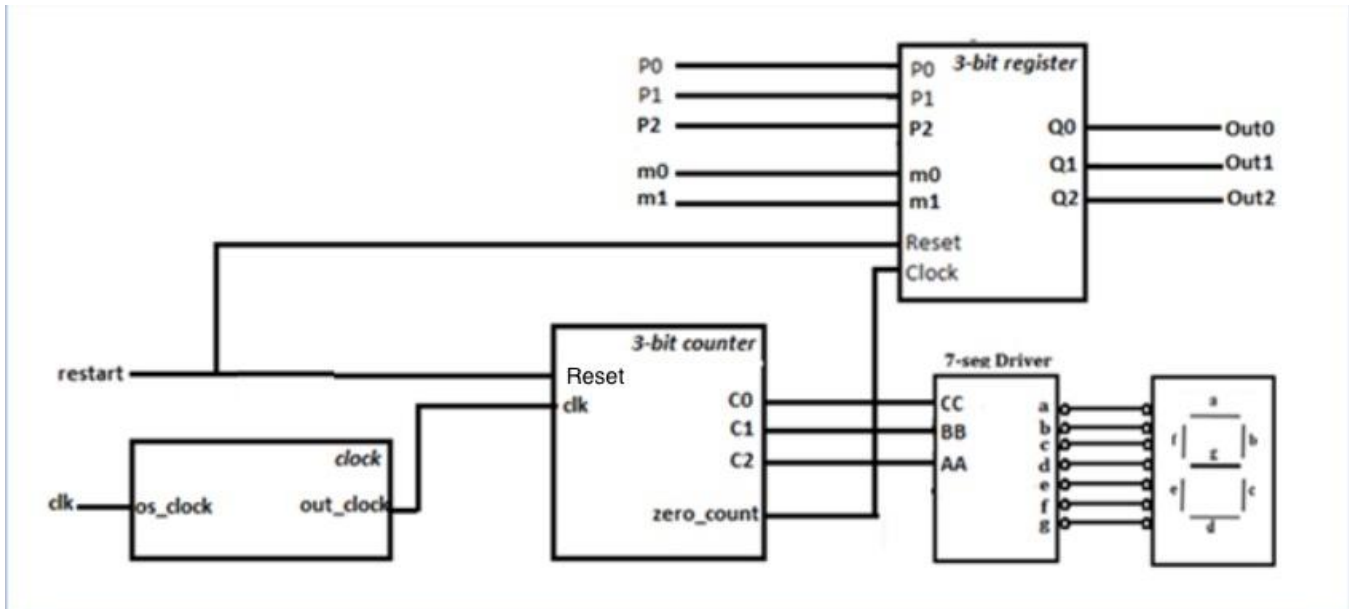

Figure1 : A 3-bit Shift Register Controlled by a 3-bit Down Counter
In this experiment, you are required to implement the circuit shown in Figure1 . The circuit consists of two components: a 3-bit synchronous counter and a 3-bit shift register. Note that the “clk” input of the counter is obtained from the external “clk” input. On the other hand, the “clk” input of the 3-bit register is obtained from the “zero count” output of the 3-bit counter. The “zero count” output is 0 when counter outputs C2, C1, and C0 equal 001, 010, 011, 100, 101, 110, or 111. On the other hand, the “zero count” output is 1 when counter outputs C2, C1, and C0 equal 000.
1. Create a new **schematic file** and save it as “**circuit1.bdf**”. In the file, build the schematic diagram shown in Figure 1. This can be done by adding the segdecoder symbol, clock symbol, 3-bit counter (threebitcounter) symbol, and 3- bit register (reg3b) symbol to your bdf file. In order to add these symbols to your design, select the symbol of AND gate on the tool bar then expand the project menu. If you cannot find the symbols under the project menu, you can add them by typing the symbol name in the text box below.